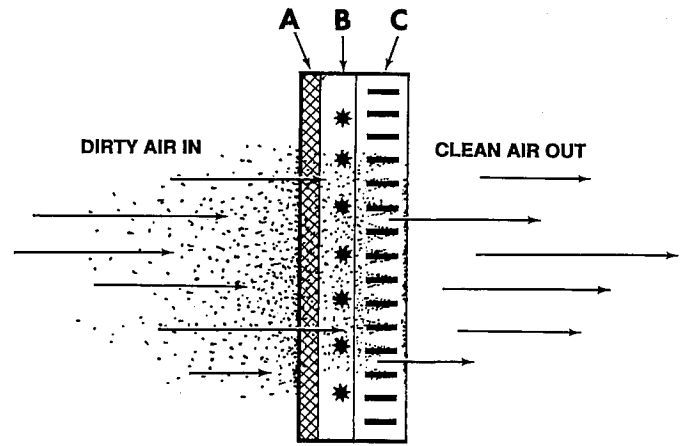

Figure 1
Dirt laden air flowing through the ducts (Figure 1) first enters the pre-filters (A) where large particles (hair, lint, etc.) are trapped. Smaller particles (smoke, dust, pollen, etc.) pass through these pre-filters and enter the ionizing section (B). Here each tiny particle receives a positive electrical charge. These charged particles then enter the collecting section (C). This section consists of a series of aluminum plates . . . alternate plates are charged positively.